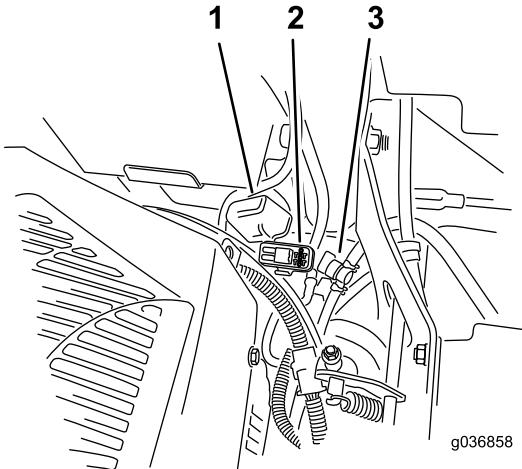

Figure 53
The fuses are located on the right console next to the seat (Figure 53).
2. Install a new fuse (Figure 53).